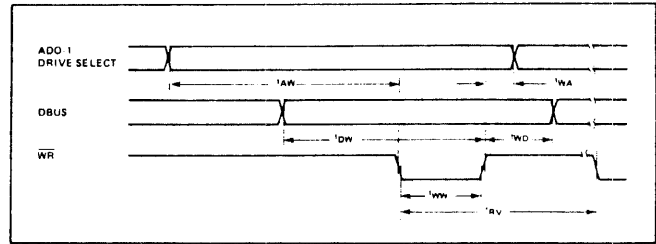

Figure 10.5-1 Register Load Timing
1. Register Load Timing Register load timing is shown in Figure 10.5-1 The AC characteristics are listed in Table 10.5-1.